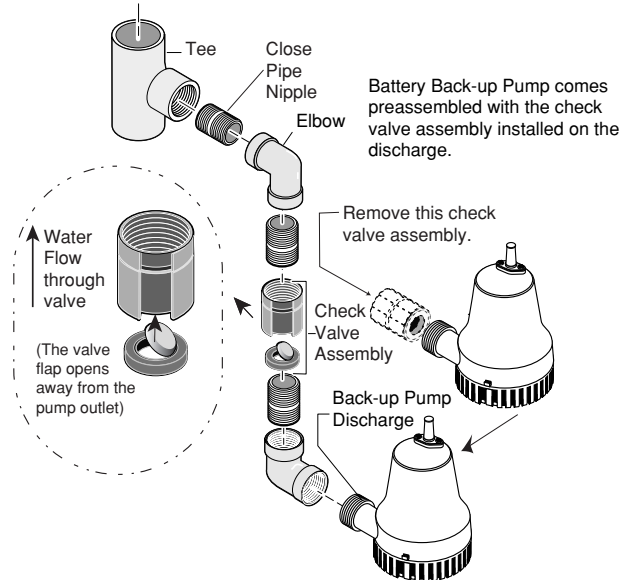

Figure 3 - Remove the pre-assembled check valve
2. Remove the check valve assembly (Key No. 4 on Page 13) from the battery back-up pump (Key No. 5) discharge and set it aside. See Figure 3. The check valve assembly will be used later, during assembly.
NOTICE: Make sure the check valve is installed in the correct direction. See the inset drawing in Figure 3.